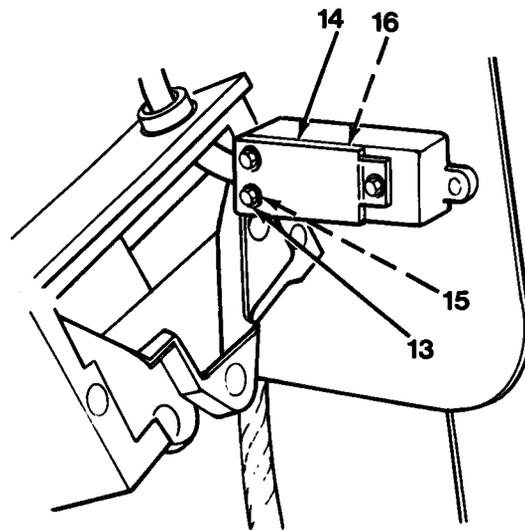

Figure 10-3
6. Remove screw (10), front cover (11) and rear cover (12) of anti-two block switch assembly (9) exposing electrical switch.
7. Slide electrical switch from anti-two block switch assembly (9), if necessary.
8. Remove three screws (13), electrical switch cover (14), three O-ring type gaskets (15) and cover gasket (16, Figure 10-3).